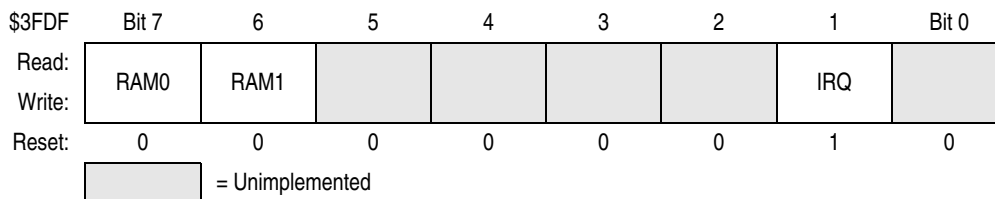

Figure 1-4. C9A Option Register
The C9A option register (OR), shown in Figure 1-4, is enabled only if configured in C9A mode. This register contains the programmable bits for the following options: